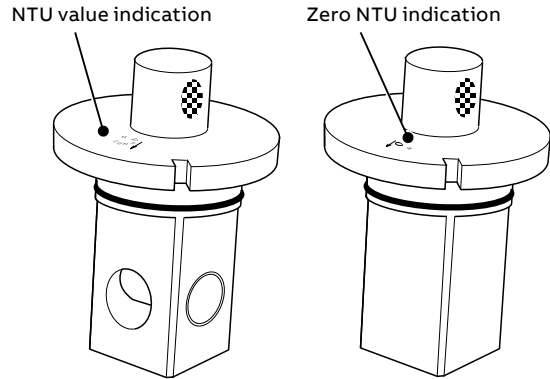
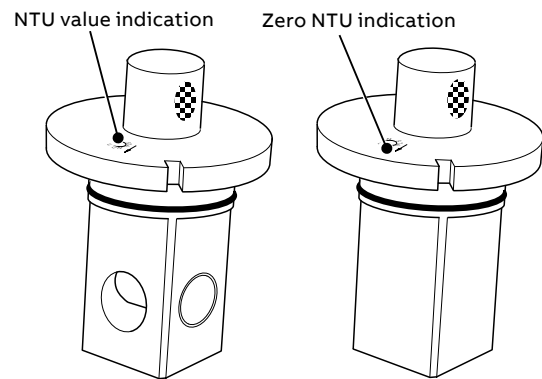
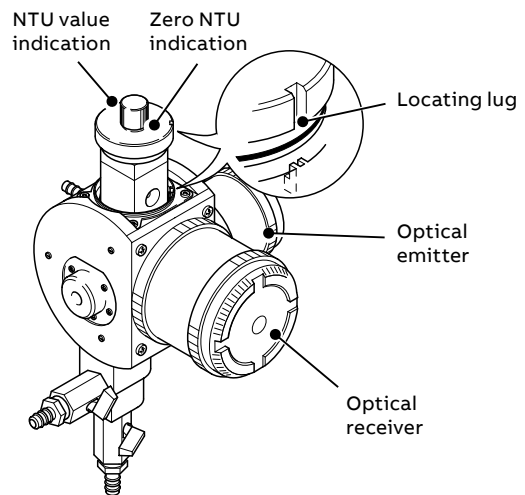

Figure 9 Dry calibration standard for low range sensors
Figure 10 Dry calibration standard for high range sensors
Figure 11 Inserting dry standard
- 9 Insert the dry calibration standard with the zero NTU indication (see Figure 9 or Figure 10) facing the optical receiver, ensuring the locating lug engages correctly. Refer to Figure 11.
- 11 Remove the dry standard, turn it through 180° and refit it, ensuring that the NTU value indication (refer to Figure 9 or Figure 10) faces the receiver and the locating lug engages correctly. Refer to Figure 11.